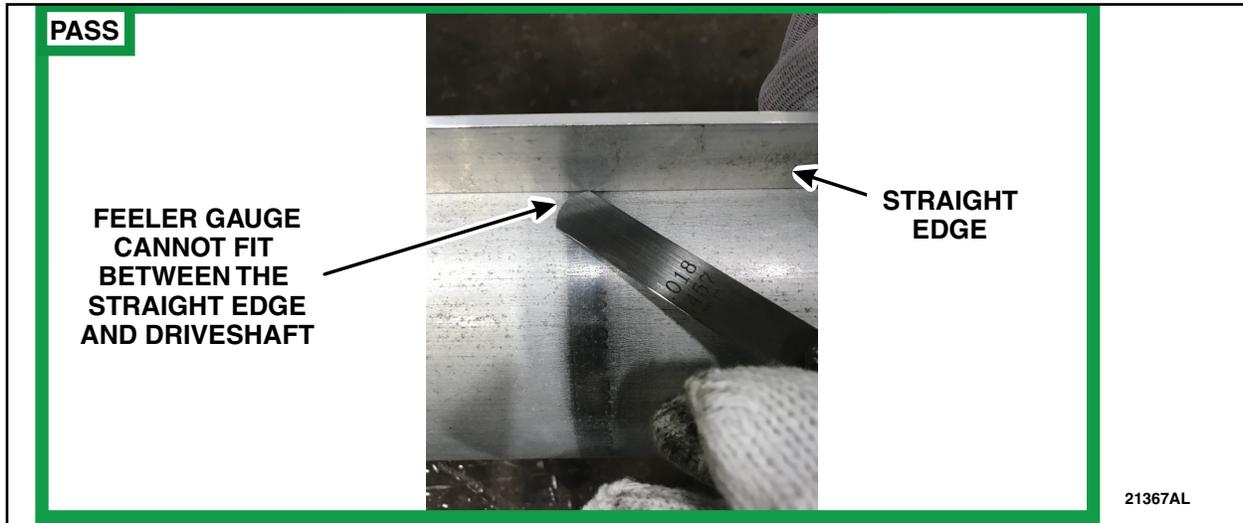

FIGURE 3
- Place a straight edge along the driveshaft over the wear mark and attempt to fit a 0.018in (0.45mm) feeler gauge between the flat edge and the wear mark. Can the feeler gauge fit between the straight edge and anywhere along the wear mark? See Figures 3 and 4.